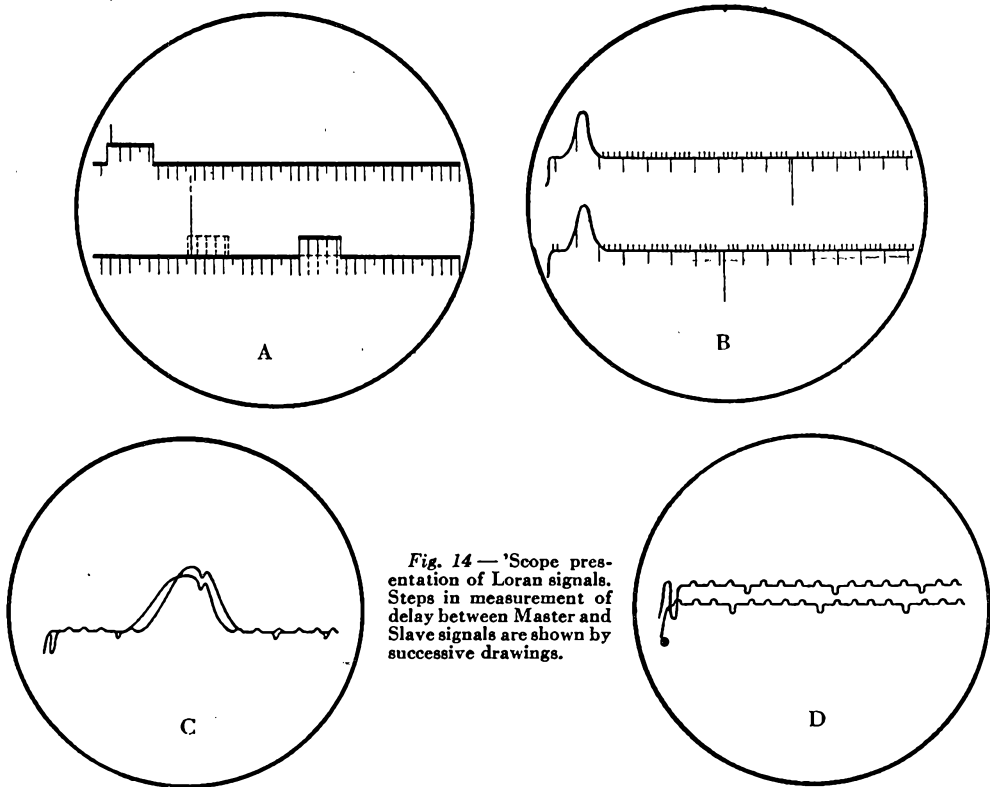

Fig. 14 — 'Scope presentation of Loran signals. Steps in measurement of delay between Master and Slave signals are shown by successive drawings.
Fig. 14 illustrates a sequence of 'scope presentations which would enable a navigator to ascertain a line of position. The first (a) shows a single pair of signals. The pair has first been selected by means of a numbered rate switch which in one of its positions makes them stand still. Any slight drift is stopped by correcting the indicator crystal oscillator. The Master signal has been set upon the upper pedestal in accordance with a simple operating rule. The Slave signal sits where
it will on the lower trace. Their amplitudes have been adjusted by the receiver gain control to a convenient value for the weaker signal and a discriminating amplitude-balance control has attenuated the stronger signal until it matches the weaker. The manual delay controls move the lower pedestal underneath the Slave signal, as indicated by the dotted lines in Fig. 14(A) so
that the pip stands in the same relation to the pedestal as the Master signal does to its pedestal. This gives a first approximation of the delay between the Master and Slave signals. As the sweep speed is increased in two steps, the pips widen out into pulses. This constitutes an electronic magnification of the left side of the pedestals. Fig. 14(C) shows the traces collapsed by means of the trace
Let us switch back to the slowest sweep and determine the delay. We will use Figs. 14(A), (B), and (D) to demonstrate how the delay between arrival of Master and Slave signals may be measured to a microsecond. Ordinarily, at this point, the navigator cuts off the receiver lead to the 'scope so as to avoid distraction. Only the 500-microsecond markers are clearly visible on the traces, pointing downward, each fifth one somewhat shortened to aid in the identification. Usually the Master pedestal has been adjusted so that its left edge occurs at the second visible 500-microsecond marker. Counting markers to the right we find that we have moved the lower pedestal so that there is an approximate reading of 4000+ microsecond delay between the Master and Slave signals.
A medium-fast sweep is now switched on. Fig. 14(B) shows the 50-microsecond markers as the predominant ones, pointing down. The 10s are pointing up. (The 500s are displaced slightly to the right of the 50s.) Starting with a convenient 500-microsecond marker on the lower trace, we count off to the right by 50s until we reach the intersection of the first upper trace 500-microsecond marker with the lower line. In the illustration, this seems to be close to 150 microseconds. Adding this second approximation to the first we come out with a total of 4150+ microseconds delay between the Master and Slave signals.
The last step is to switch on the fastest sweep which makes the 10-microsecond markers apparent as bumps above the trace line, as in Fig. 14(D).